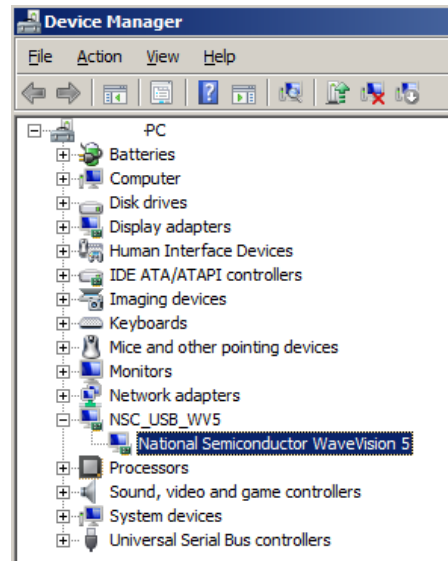

Figure 7: Verify driver installation
9. After installation is confirmed, verify that the driver is correctly installed using the Device Manager. The device should be register under the NSC_USB_WV5 class as indicated in Figure 7.